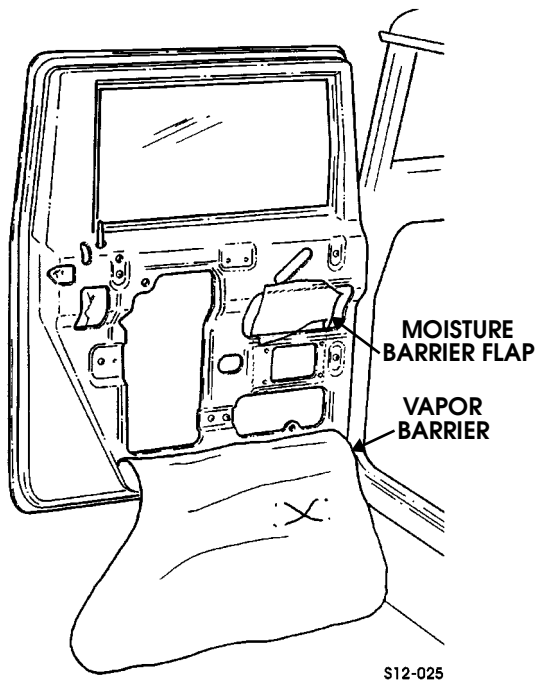

Figure 12-116: Vapor Barrier
5. Remove vapor barrier and moisture barrier flap from door (Figure 12-116).